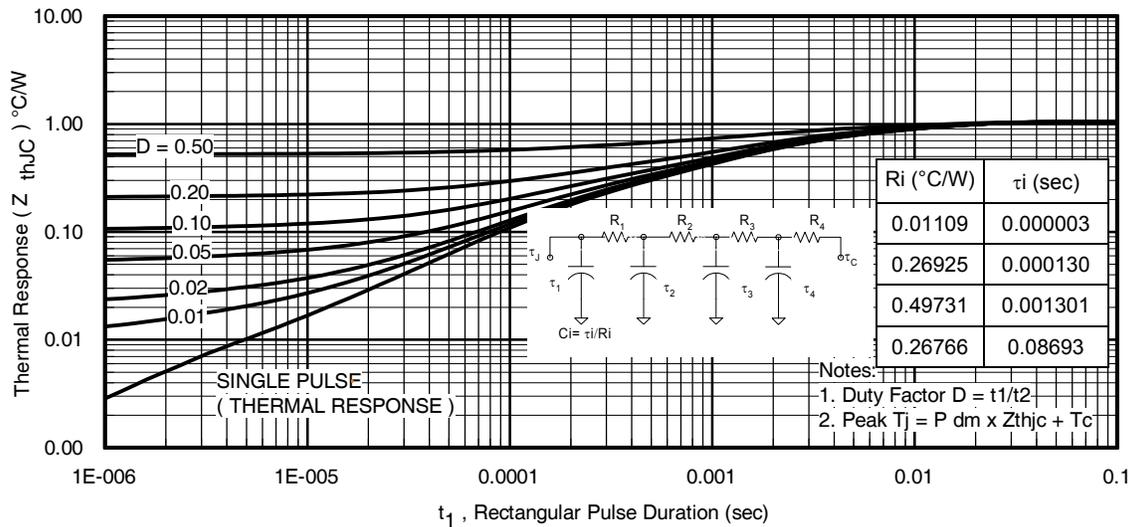

Fig 13. Maximum Effective Transient Thermal Impedance, Junction-to-Case
7. ΔT = Allowable rise in junction temperature, not to exceed T_{jmax} (assumed as 25°C in Figure 13, 14).
$Z_{thjc}(D, t_{av})$ = Transient thermal resistance, see Figures 13)